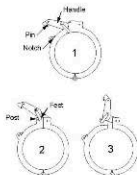

Figure 1
1. Remove the dome to base clamp. Pull the clamp slightly to the side and lift the clamp handle, using the feet of the clamp to pry against the two posts to spread the clamp open. Open one side of the clamp all the way and pull it back on itself quickly to remove it from the dome and base. (Fig. 1)